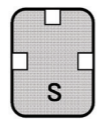

Figure 2. Top view of the GUIDOR Matrix Barrier
- GUIDOR Matrix Barrier is packaged in the plastic tray with the external layer facing the opening lid. As shown in Figure 2, the external layer is marked with an “S” and multiple 2 mm square notches along the edge of the Matrix Barrier.